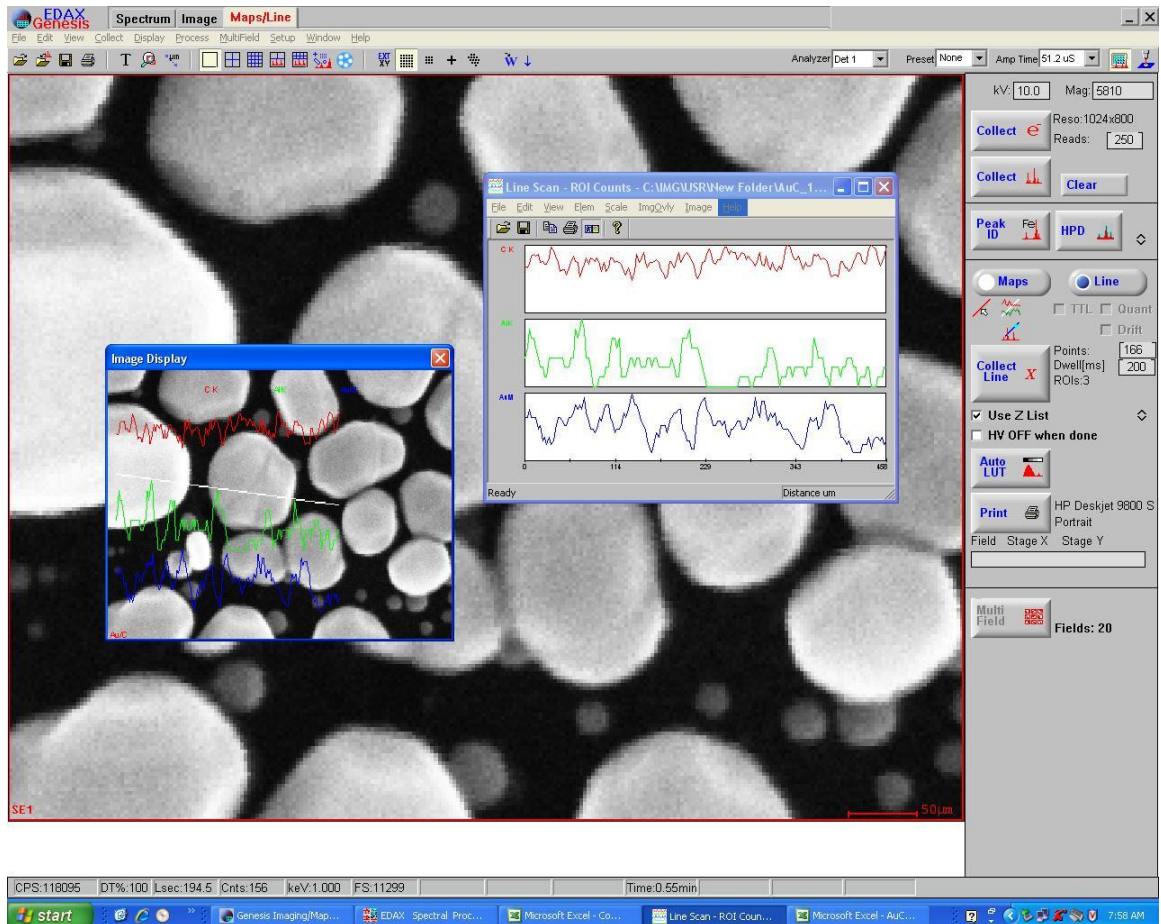

Figure 40. Line Scan graph windows showing the pure graph window (Right) and the overlay graph (Left).
- The actual line scan graph will appear in a new window with the number of graph lines determined by the remaining elements in the Element box that you set up previously. See the three-band graph in the right window in Figure 40.